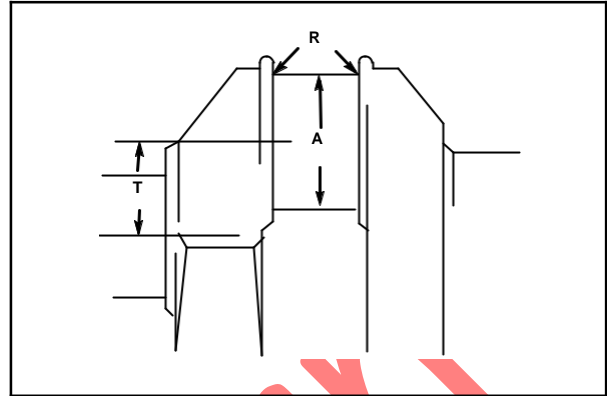

Fig. 2
Crankshaft crankpin may be re-ground for **0.020"** undersize connecting rods when available. See IPL for part number. Accurately measure and grind the crankpin diameter (A), throw (T) and fillet radius (R), **Fig. 2**. Discard any crankshaft that is worn beyond reject specifications listed in Section 13.